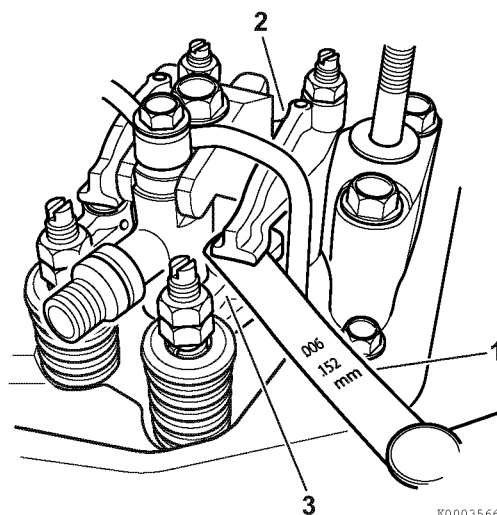

Figure 6-85
8. To adjust the actual valve clearance between the rocker arm and the valve bridge, insert a feeler gauge (1, **Figure 6-85**) of the correct thickness (See *Adjustment Specifications* on page 6-4) between the rocker arm (2, **Figure 6-85**) and valve bridge (3, **Figure 6-85**). Record the results and use this value as an indication of wear.